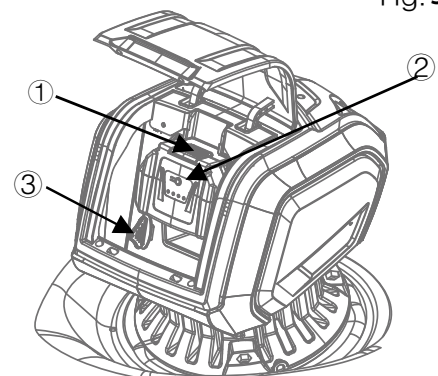

Fig.5
6. Installing the Lithium-Ion battery pack (See Fig.5)
7. Removing Lithium-Ion battery pack (See Fig.5).